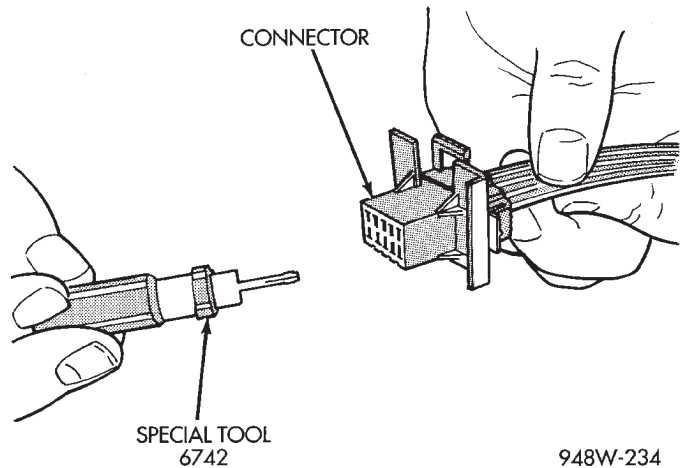

Fig. 12 Molex Connector Repair
- (1) Disconnect battery.
- (2) Disconnect the connector from its mating half/component.
- (3) Insert the terminal releasing special tool 6742 into the terminal end of the connector (Fig. 12).